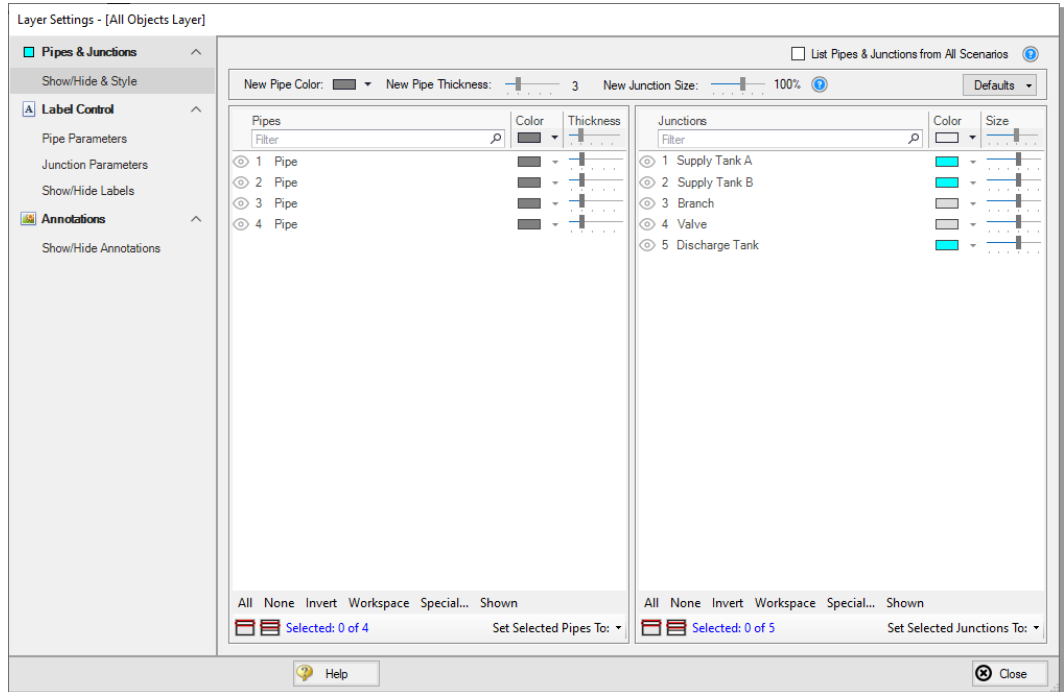

Figure 2.31 The Layer Settings window specifies content to be superimposed on the Workspace
- **Open the Layer Settings window for the All Objects Layer** by double-clicking the All Objects Layer, clicking the gear icon to the right of the layer name, or selecting the layer and clicking the single gear icon on the Layers Toolbar. The Layer Settings window is shown in Figure 2.31.